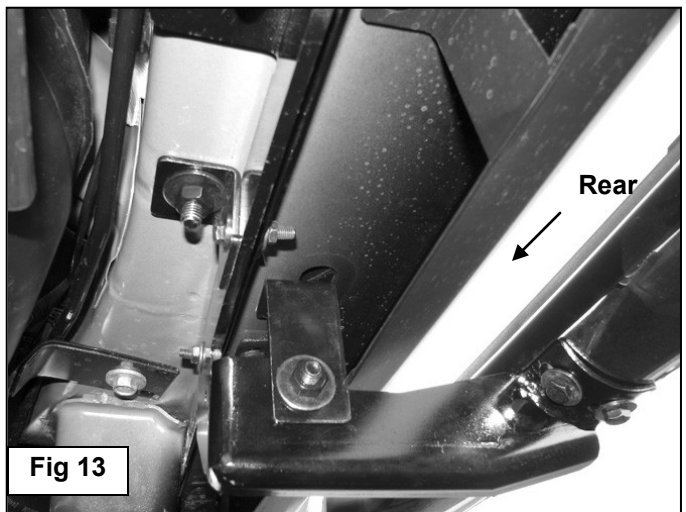

Fig 13
8. Select the left Sidebar and carefully place it in position on the (2) Mounting Brackets. Line up the threaded holes in the Sidebar with the slots in the Brackets and bolt it in place with the included (4) M8 x 25mm Hex Bolts, (4) M8 Lock Washers and (4) M8 Flat Washers, (Figure 13). Snug all hardware but do not tighten at this time.